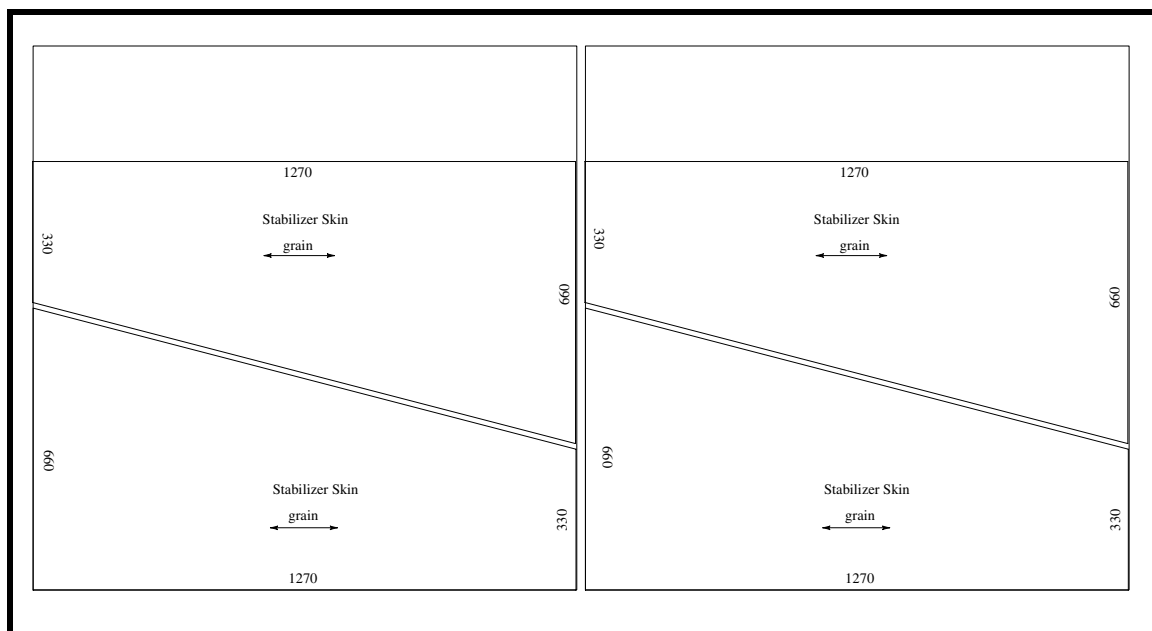

Figure 5
- ❑ Use two 50"x50" sheets of 1.5mm birch plywood and cut in accordance with Figure 5.